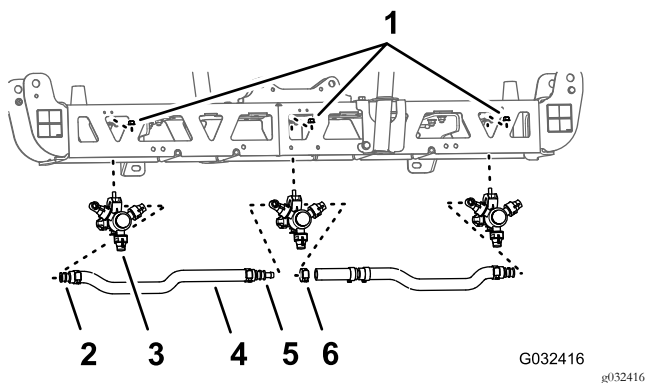
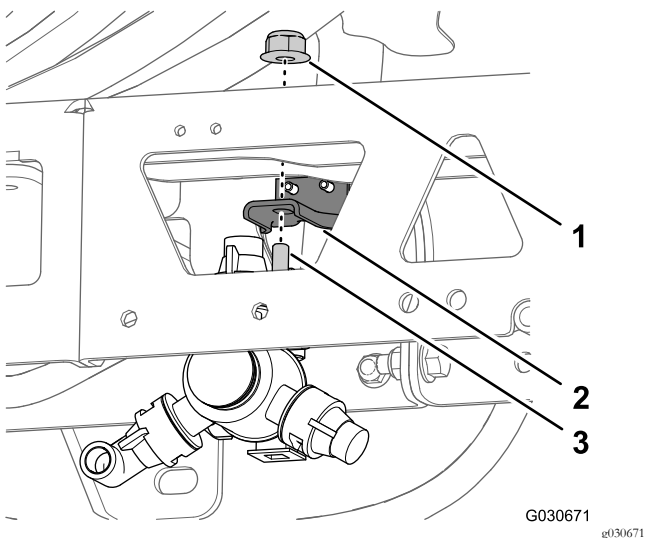

Figure 46
Figure 47
- 1. At the center-spray section, remove the flanged locknut that secures the sprayer nozzle to the nozzle mount (Figure 46 and Figure 47).
- Remove the nozzle from the center-spray section (Figure 46 and Figure 47).
- Remove the hoses (3/4 inch inside diameter), barbed-hose shanks, clamps and barbed T-fitting from the center-spray section (Figure 46).